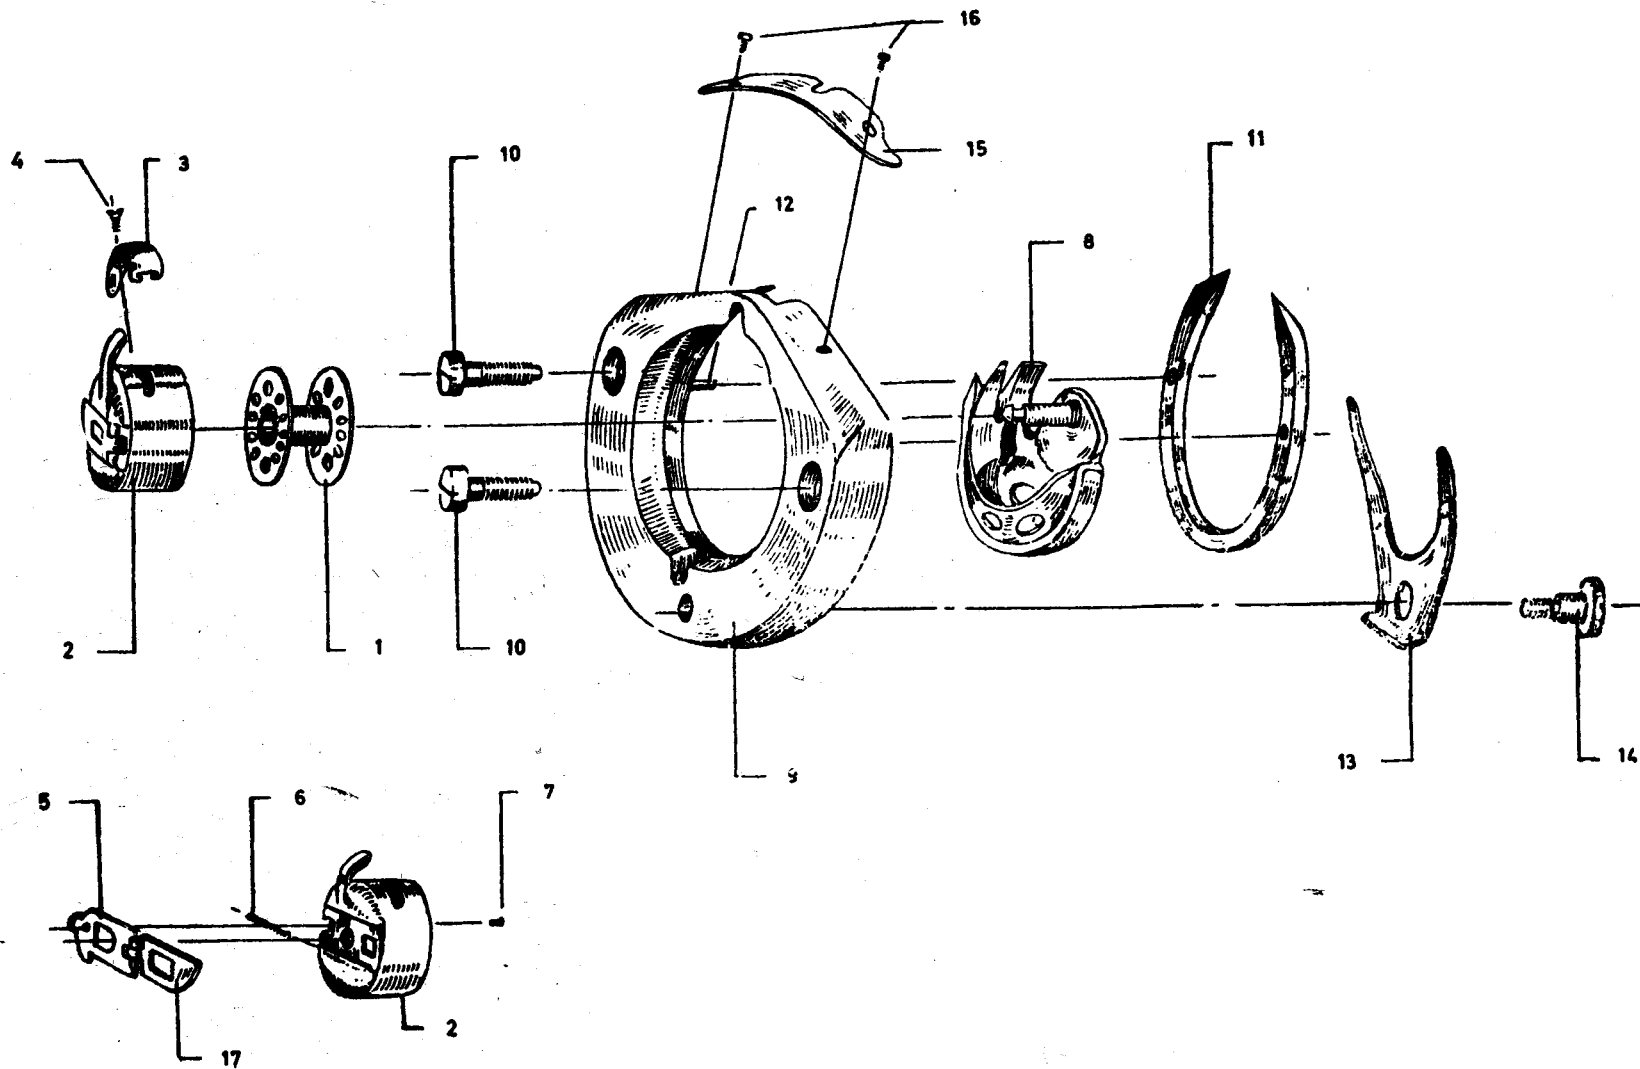

FIG. 12 SHUTTLE RACE AND BOBBIN CASE ASSEMBLY
**2.12 Shuttle Race and Bobbin Case Assembly — See Fig. 12.**